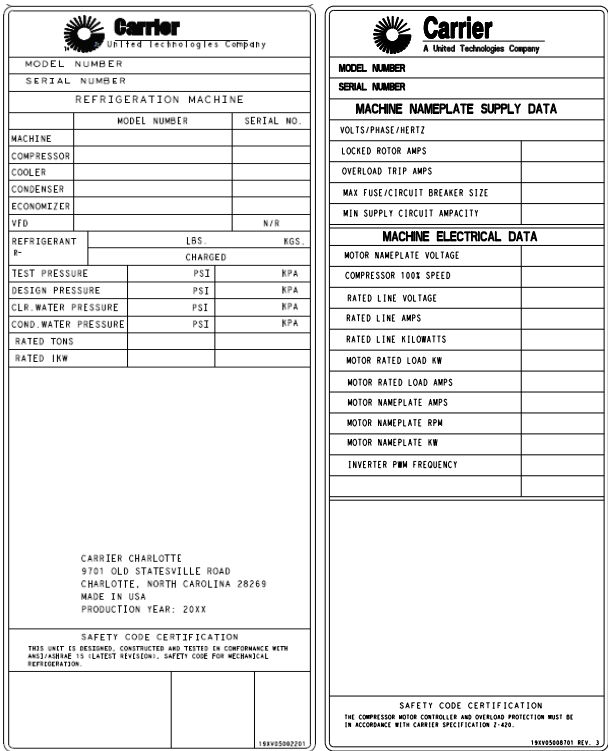

Fig. 32 — Machine Identification Nameplate and VFD Electrical Nameplate
- Chiller identification nameplate — Located on the left side of the control panel. See Fig. 32.
- VFD Nameplate data - located on the right side of the VFD. See Fig. 32.